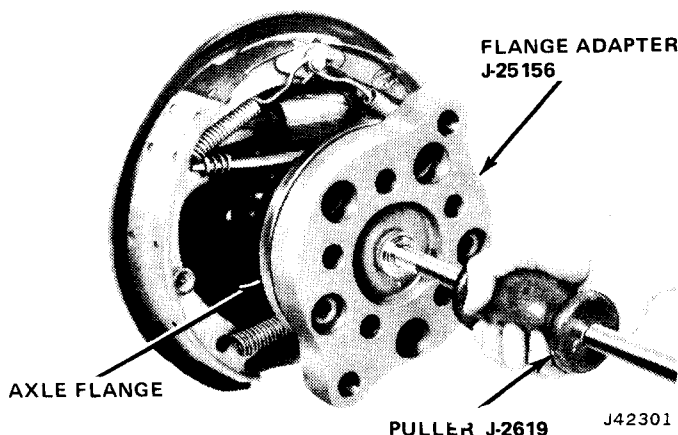
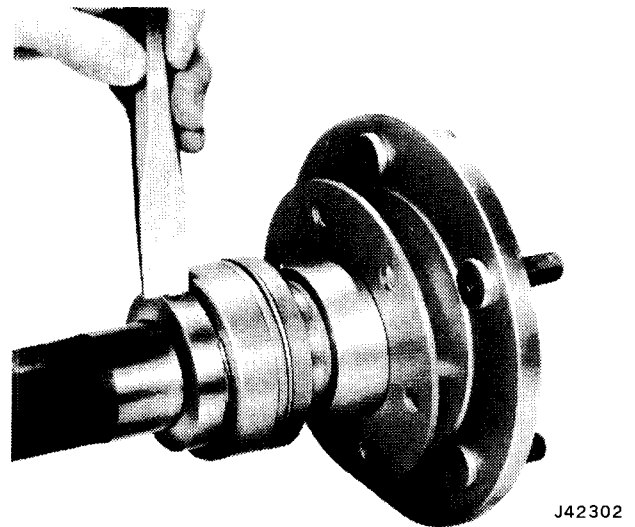

Fig. 10-23 Removing Flanged Axle Shaft
Fig. 10-24 Notching Bearing Retainer Ring
(5) Attach Axle Shaft Adapter Tool J-25156, and Slide Hammer Handle J-2619 to axle shaft flange and remove axle shaft (fig. 10-23).
(6) Remove axle shaft oil seal from axle housing tube.
(7) Wipe seal bore in axle housing tube clean and install oil seal using Driver J-25135.
(8) Mount axle shaft assembly in vise.
(9) Using chisel, cut deep groove into retaining ring. This will enlarge ring, or split it, allowing ring to be driven off axle shaft (fig. 10-24).